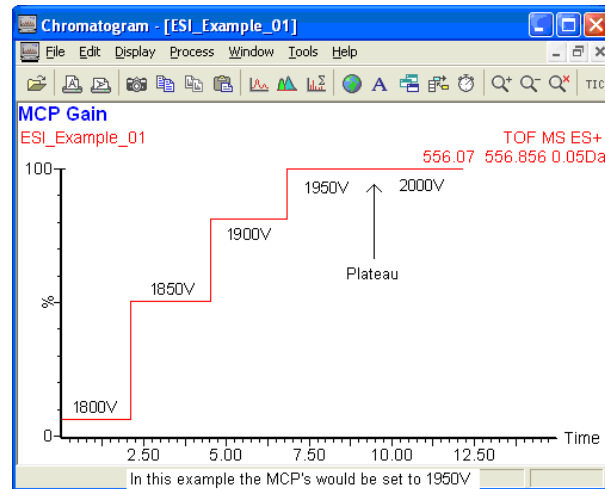

Figure 18 - Example of detector gain measurement.
**NOTE:** Once the chromatogram reaches a plateau at 2200 V or less, the detector voltage is the minimum value to be used (Figure 18).